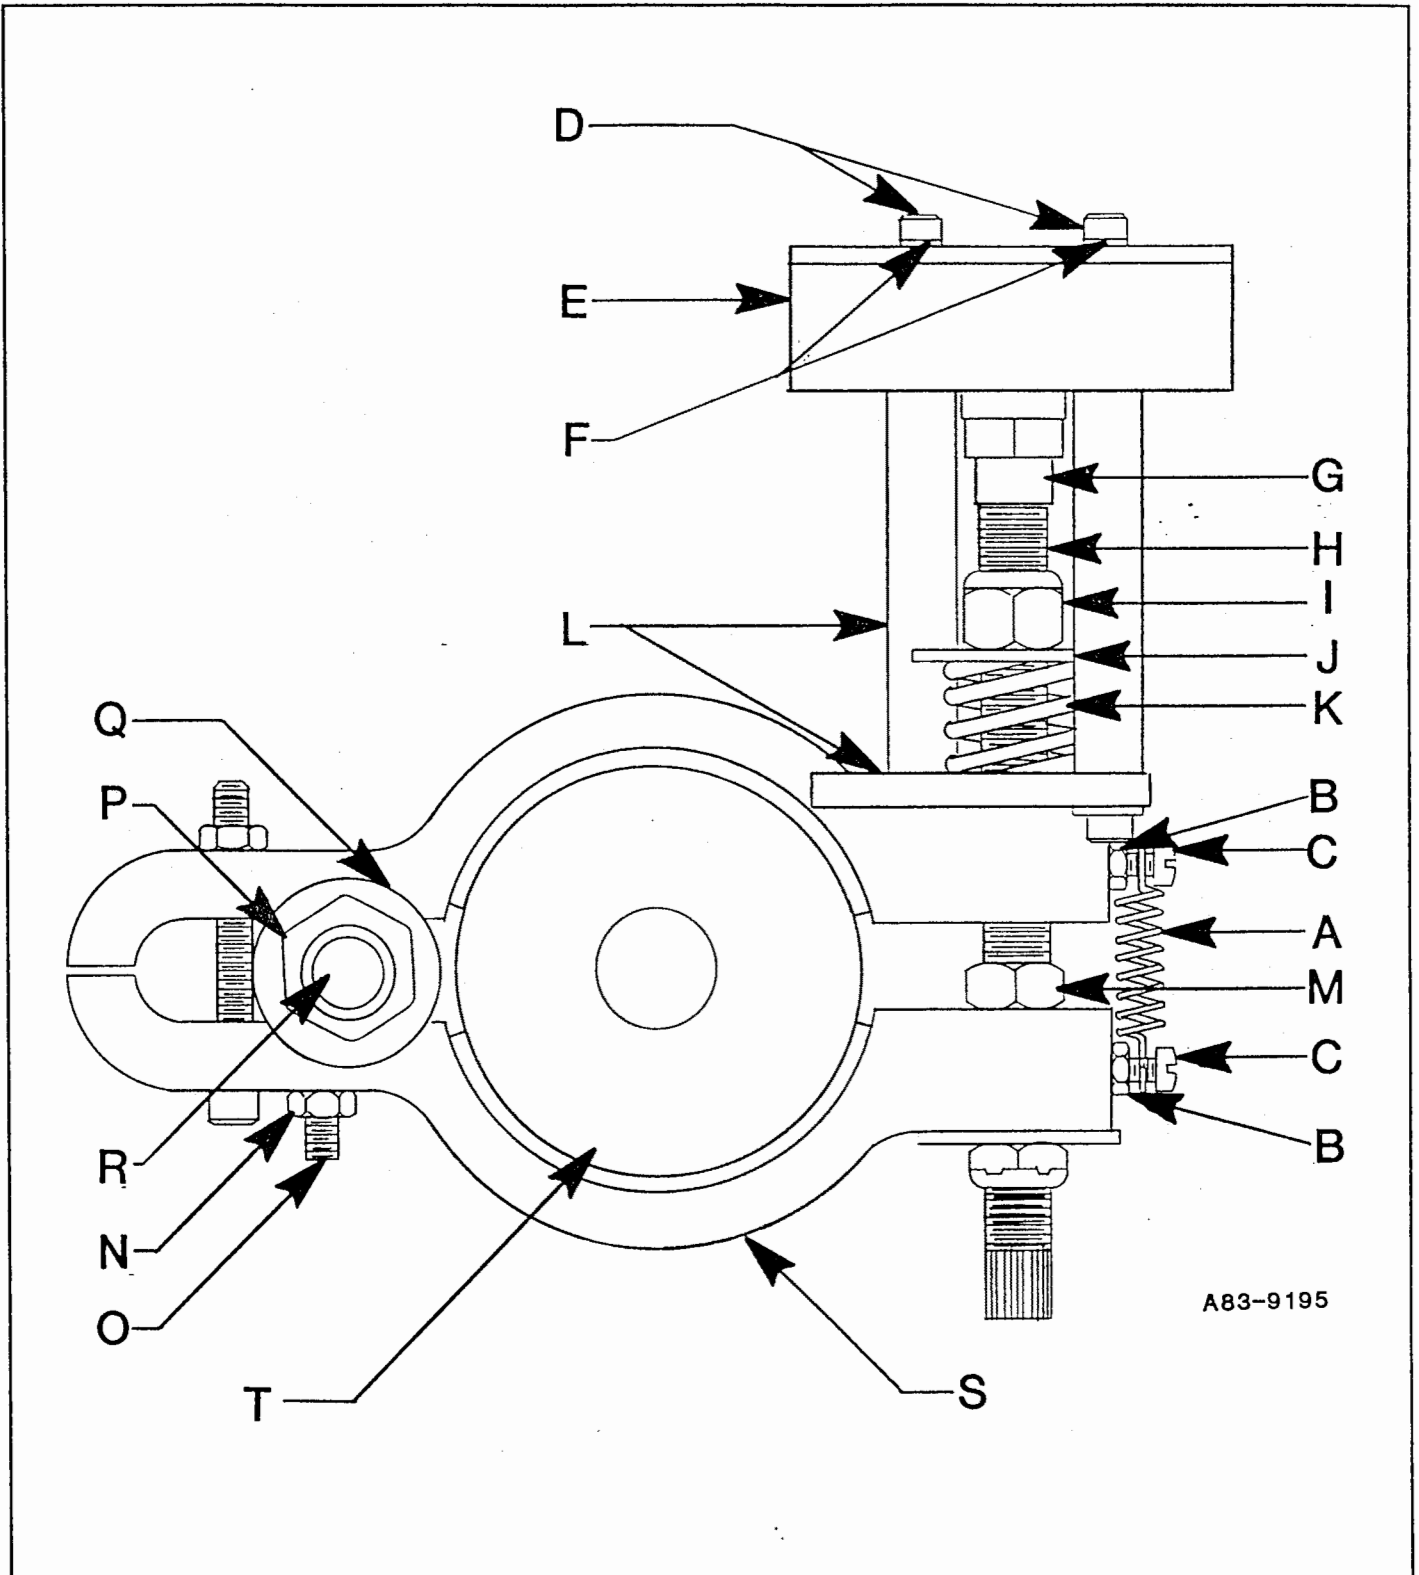

Figure 8.3 B
20. Screw brake mounting nut (P) onto brake axle (R). Do not tighten nut against brake shoe assembly or brake will not work. Brake shoe assembly should have as little side to side motion as possible but still be able to move up and down freely after nut is screwed onto brake axle. See Figure 8.3 C.